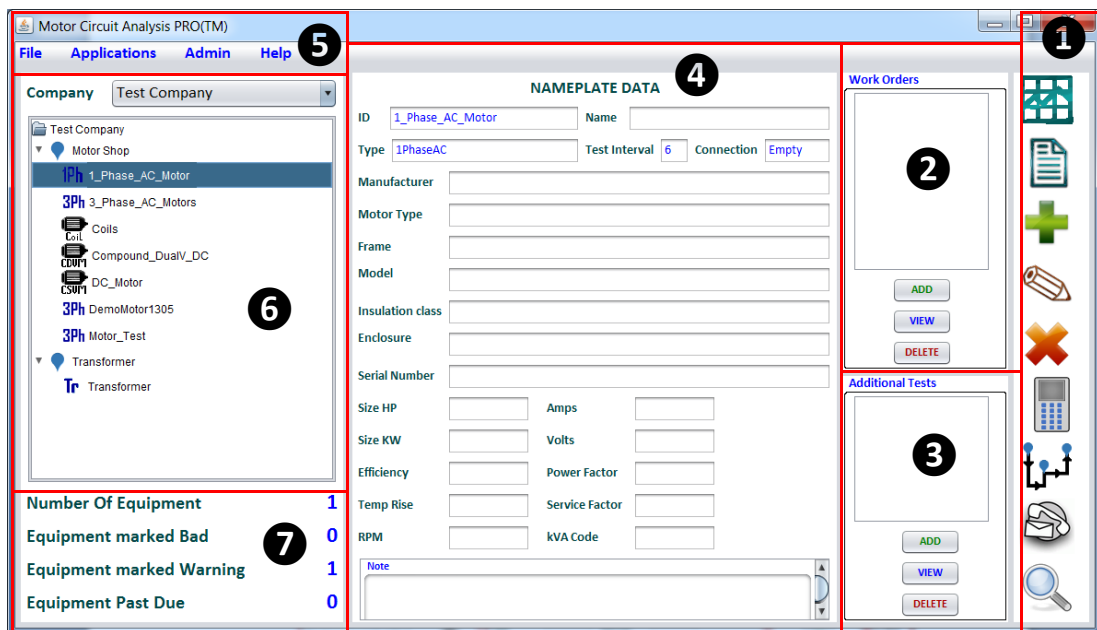

Figure 1: Main Screen
In area ❶ on Figure 1: Main Screen, There are 9 functional icons. Each of the functions are described below.